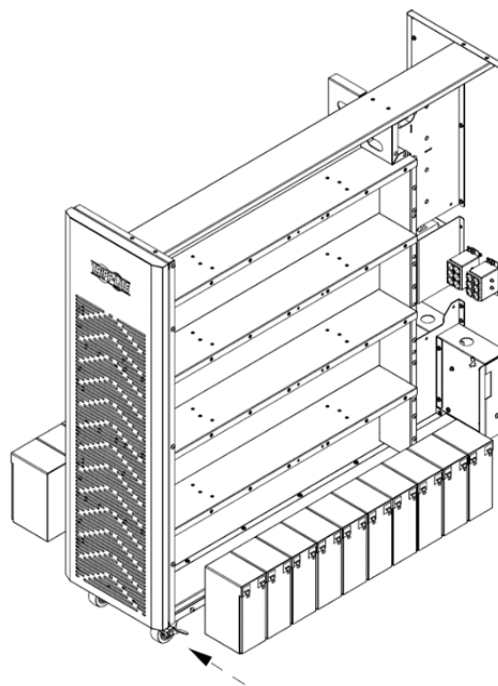

Figure 5-6B
6. Install another 10 battery packs in the bottom layer (L1-B, group 1 negative string). Be sure to keep terminal sides of all batteries up (Figure 5-6B).